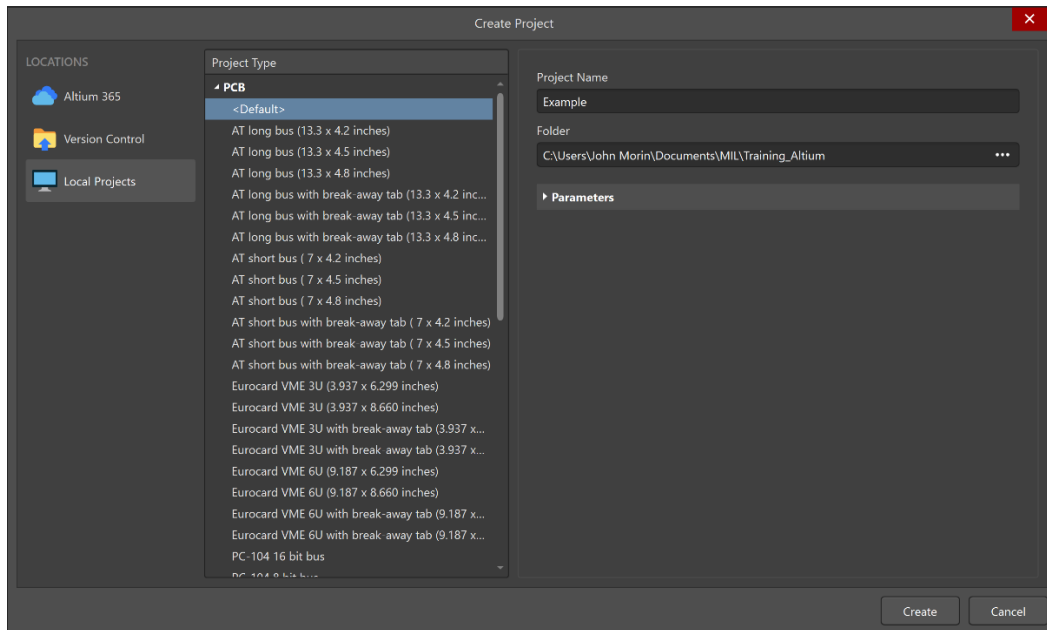

Figure 2: New Project Start Up Screen
2. You will see a start-up screen like the one in Figure 2. For now, just select the default Project type.